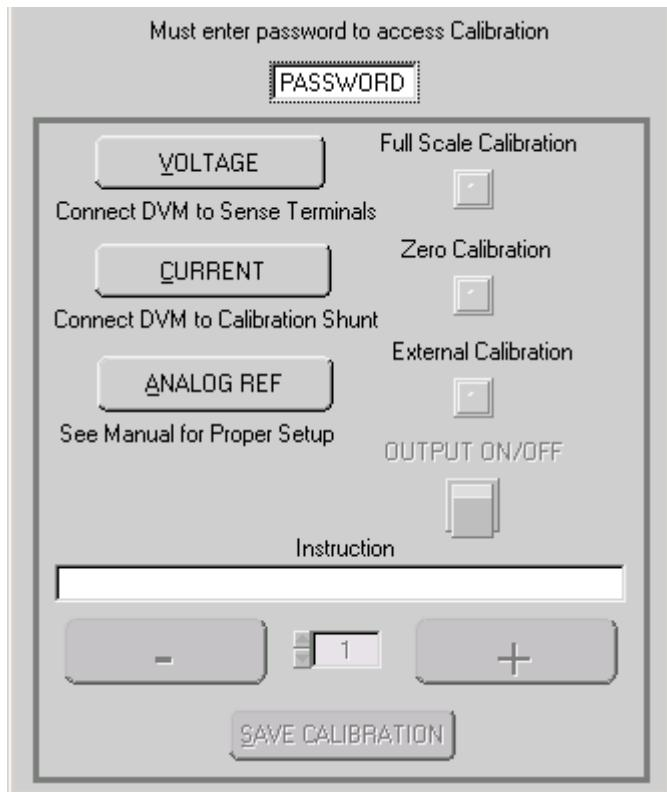

FIGURE 4-1. CALIBRATION WINDOW
6. Click the **Calibrate Access** button on the VXI *plug&play* demo main panel: the button label changes to **Calibrate Close** and the Calibration Window (Figure 4-1) opens with all buttons disabled (grayed out) and **PASSWORD** appears in the text box near the top of the window.
8. If password is correct, the status display on the VXI main panel reads **CAL** and the buttons on Calibration Screen (Figure 4-1) are enabled (highlighted). If the password is incorrect, the password text box displays “**WRONG #**”. Repeat step 7 to enter the correct password, or click the **Calibrate Close** button on the VXI main panel to exit calibration.